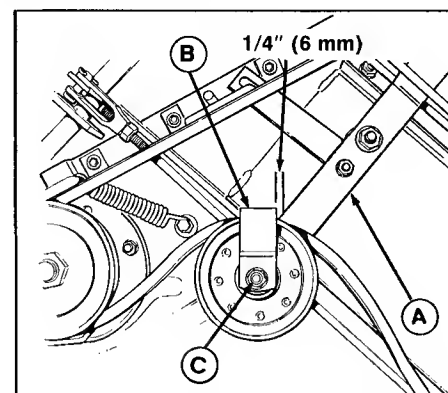

Figure 36. Idler Pulley Belt Guide
Adjust guide to obtain 1/4 inch (6 mm) from idler arm (figure 36). Loosen nut (C) to adjust. Recheck measurement.